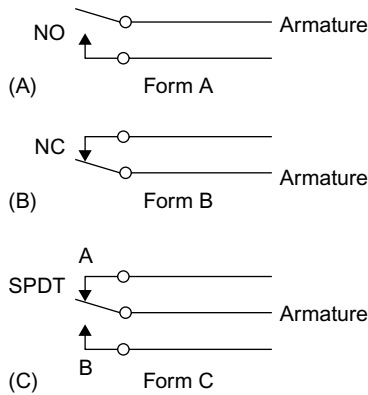

FIGURE 12.14 Common relay contacts. (A) Form A. (B) Form B. (C) Form C.
The various kinds of switching contacts used in relays are illustrated in Figure 12.14. Normally open (NO) contacts are referred to as *form A*. Applying power to the coil closes the contacts. Normally closed (NC) contacts are referred to as *form B*. When power is applied to the relay coil, the contacts open. Single-pole, double-throw switching contacts are referred to as *form C*. When power is applied to the relay coil, the contact arm moves from contact A to contact B. Form C contacts are usually of the break-before-make variety. That is, contact A opens before the arm touches or “makes” contact B.